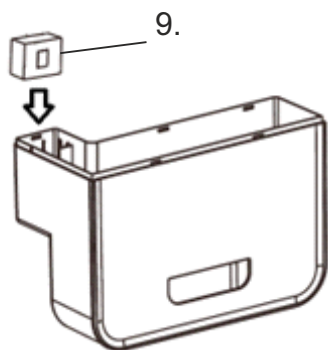

Figure 4
WARNING: the float (9) located inside water tank should be put inside correct place again after seasonal cleaning the water tank. Look at Figure 4.
Possible reason no 1: the tank float (located inside the water tank) is stuck. Look at Figure 4.